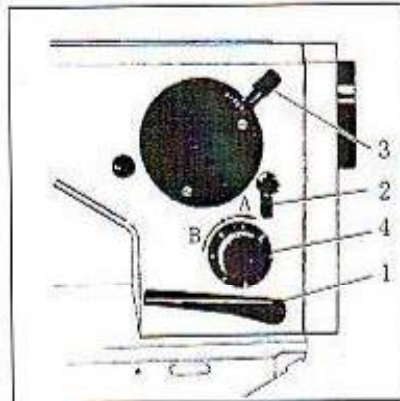
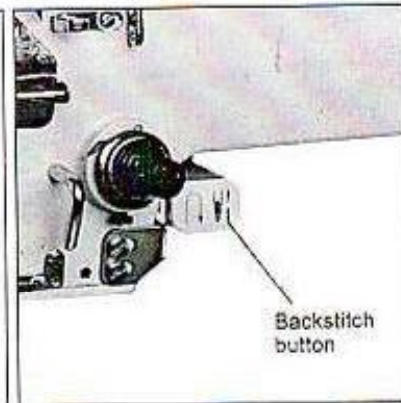

Fig.9
Fig.10
19. The stitch length and backstitch adjustment (Fig.9, Fig.10)
- 1) The stitch length can be adjusted by turning the knob (4) provided on the column of the machine arm, from 0 to 5mm. By turning it in the sense of the arrow "A", you increase the stitch length. By turning it in the sense of the arrow "B", you decrease it.
- 2) Depress the backstitch hand lever (1) can proceed backstitch.
- 3) Depress the backstitch button as shown in Fig. 10 can proceed backstitch.
20. The stitch width adjustment (Fig.9)